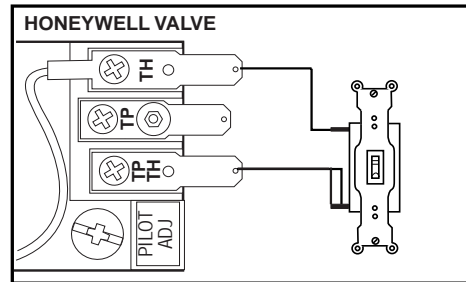

Fig. 8
3. Connect wiring to gas valve. (Fig. 8/9)